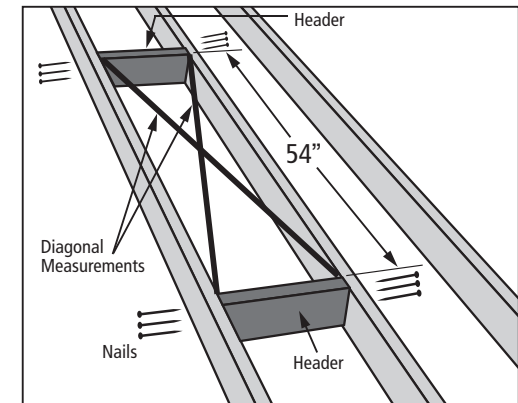

FIGURE 18
Make a rough opening to the size as required in table 1 ensuring that the dimensions of the diagonals of the frame are the same as illustrated in Figure 18.
A. For Rough opening without joist removal (Figure 18)
- Locate headers in front and rear of the opening as shown in Figure 18.
- Secure using (3) 16d nails into each end of the Header.